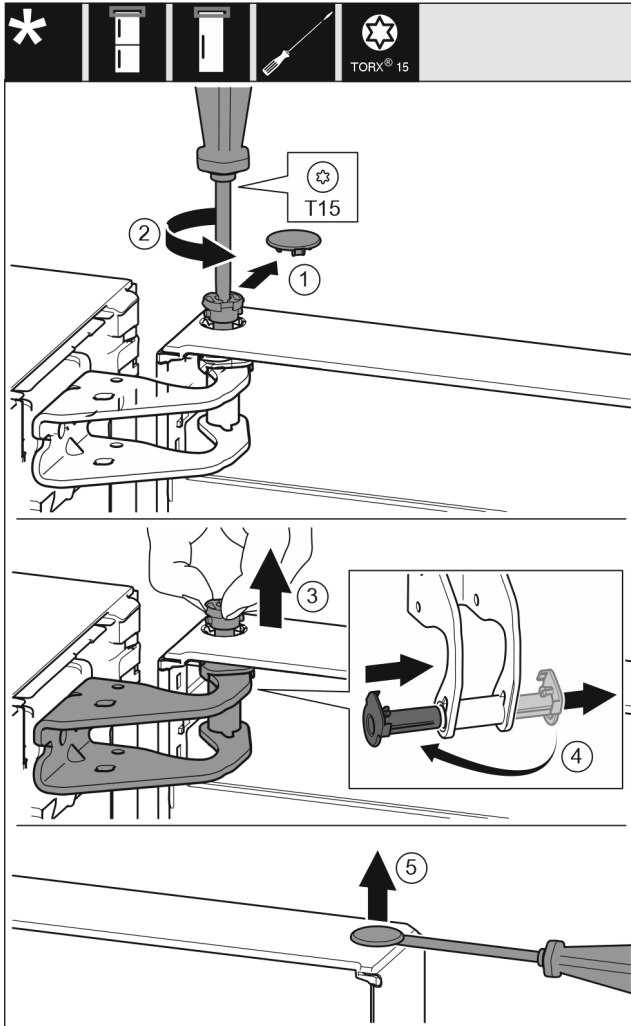

Fig. 7
- ▶ Carefully remove the protective cover. *Fig. 7 (1)*
- ▶ Loosen the bolts slightly with a T15 screwdriver. *Fig. 7 (2)*
- ▶ Hold the door and remove the bolts with your fingers. *Fig. 7 (3)*
- ▶ Pull the bearing bush out of the guide. Insert from the other side and latch into place. *Fig. 7 (4)*
- ▶ Carefully lift the plugs out of the door bearing bush with a slotted screwdriver and remove them. *Fig. 7 (5)*